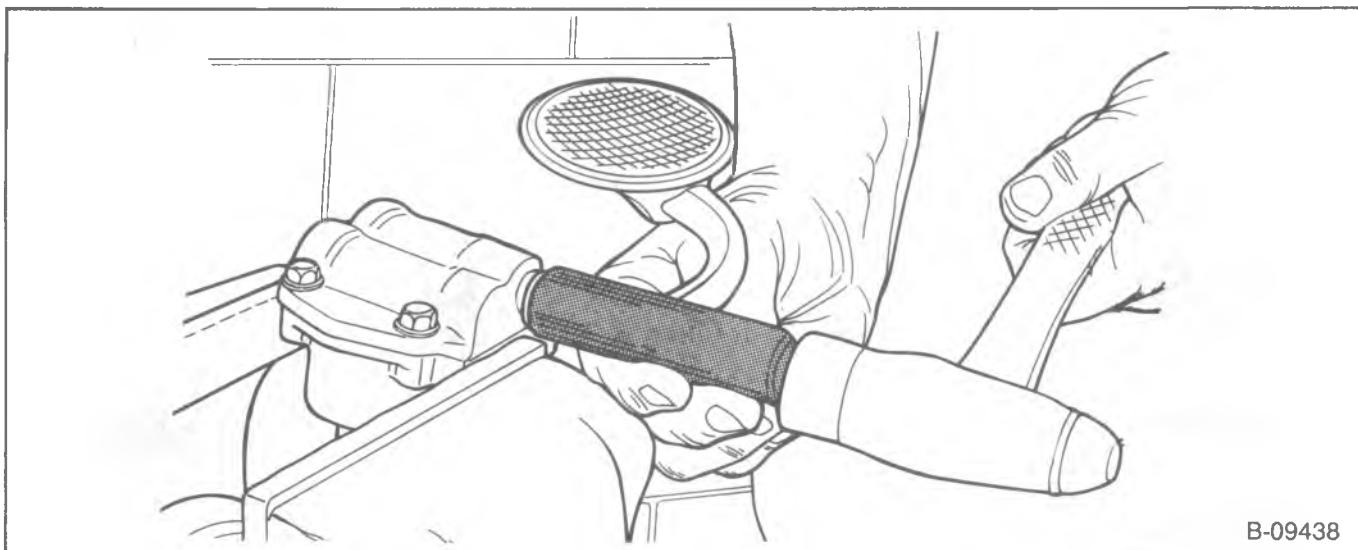

Figure 33—Installing the Oil Pump Screen and Pipe
8. Pick-up screen and pipe (140) (if removed) (figure 33).